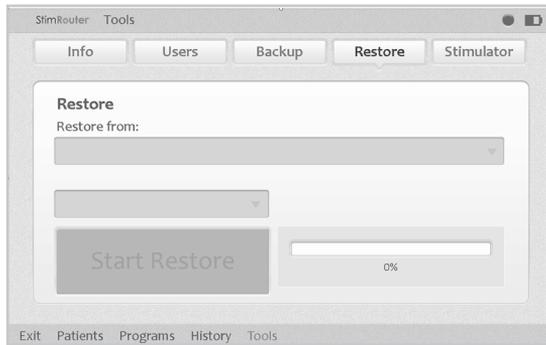

Figure 10-6: Restoring the Clinician Programmer database
3. From the “Restore from” drop-down list, select SD Card drive. See Figure 10-6.